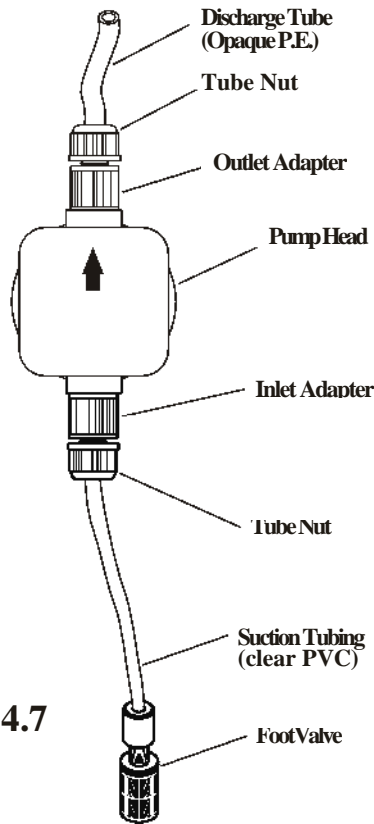

FIG. 4.7
4.3.1 Inlet Tubing - Locate the inlet fitting of the pump head, see fig 4.7. Remove the tube nut. Push the clear PVC suction tubing onto the compression barb of the fitting. Use the tube nut to secure the tube. Hand tighten only.
4.3.3 Outlet Tubing - Locate the outlet fitting of the pump head, see fig 4.7. Remove the tube nut. Push the rigid outlet (discharge) tubing onto the compression barb of the fitting. Use the tube nut to secure the tube. Hand tighten only.